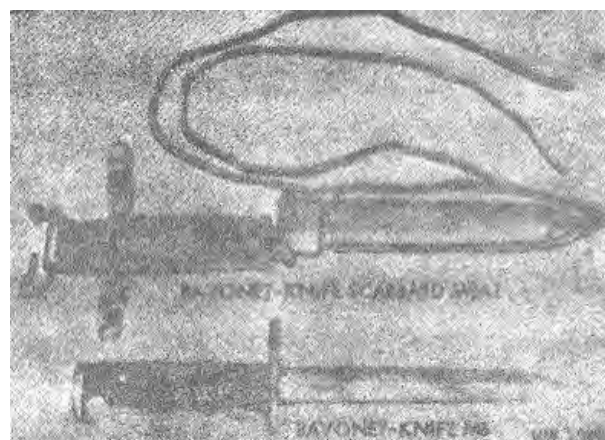

Figure 1-11. Bayonet-Knife M6 end Scabbard M8A1.
d. Bayonet-Knife, M6 (fig. 1-11) is used in conjunction with Rifle, M14 for close combat. It connects to the bayonet lug of the flash suppresser and a close loop in the handle encircles the flash suppresser.
e. The Bayonet-Knife Scabbard, M8A1 (fig 1-11) serves as a carrier for the bayonet-knife when it is not installed to the rifle.